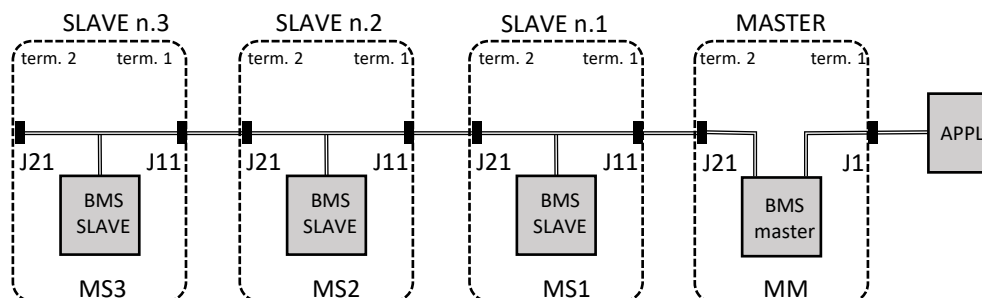

Fig. 4 MASTER-SLAVE configuration. Control lines.
- J11 and J21 are installed on terminal 1 and 2 respectively, according to Fig. 4.